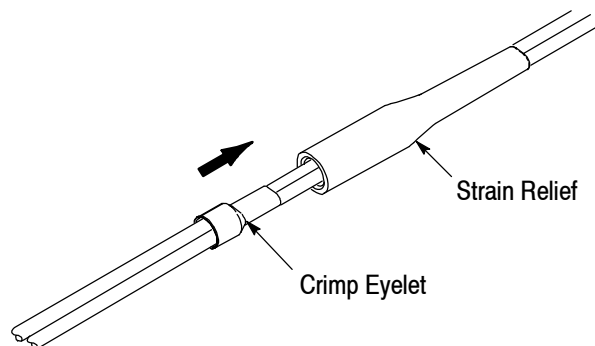

Figure 10
2. Slide the strain relief and crimp eyelet onto the cable. See Figure 10.